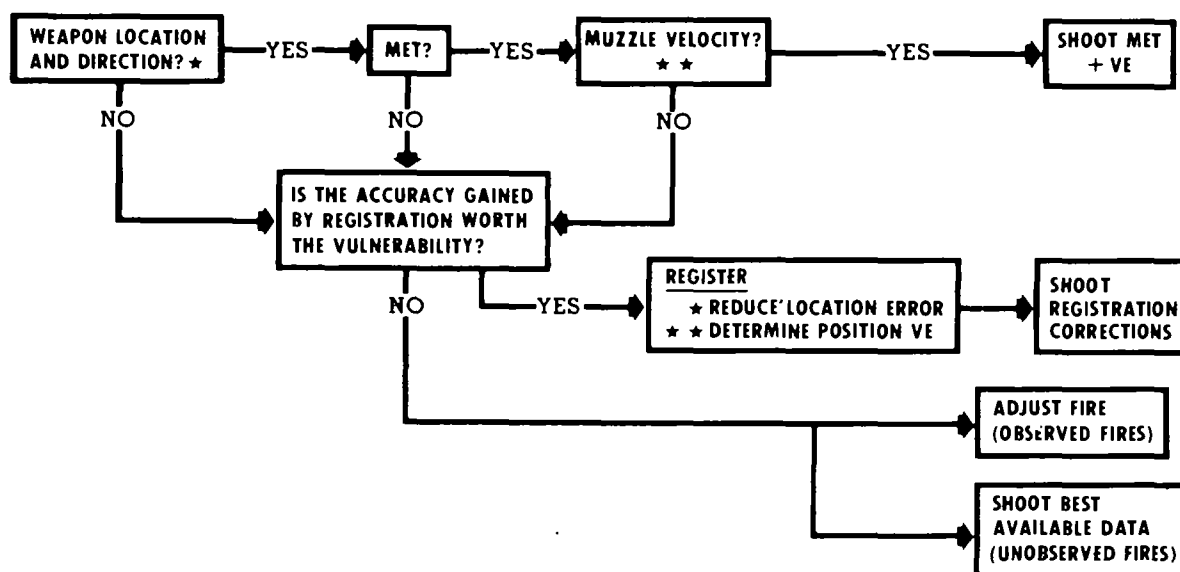

Figure 12-1. When to register.
(3) Muzzle velocity. The major causes of change in muzzle velocity are erosion (tube wear) and changing propellant lots. Erosion is gradual and will depend on the amount of firing. Wear tables in each tabular firing table may be used to help estimate when it will be necessary to perform calibration or registration.
b. If you don't have confidence in one or more of the three elements needed for MET + VE firing techniques, you should register. When registration isn't possible, use adjust fire techniques for observed fires and the best available MET + VE solution for unobserved fires (fig 12-1).